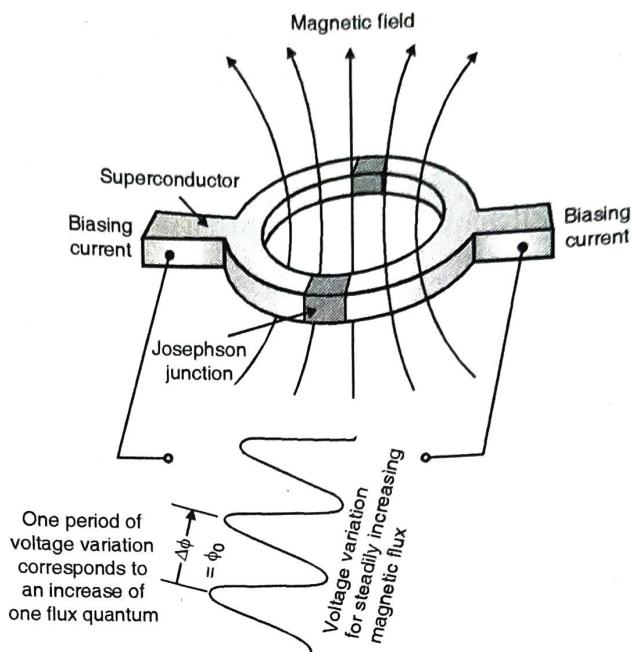

Fig.5.8.2 : Structure of SQUID
- It consists of two superconductors separated by thin insulating layers to form a Josephson junction which is as shown in the Fig. 5.8.2.